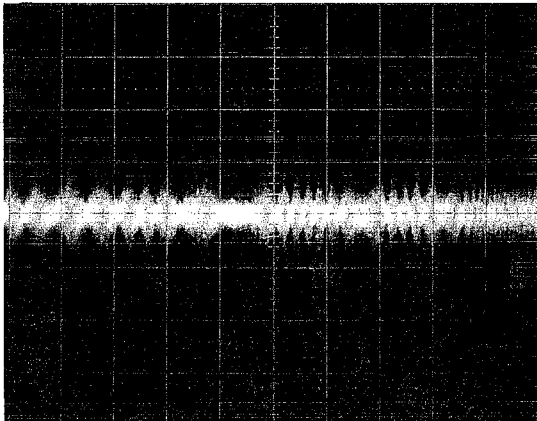

Fig. 39
8. Then while monitoring TEY by oscilloscope, turn the driver slowly clockwise from the null point (as seen from under the lens) until the first waveform peak amplitude is reached. (See Fig. 39—44)